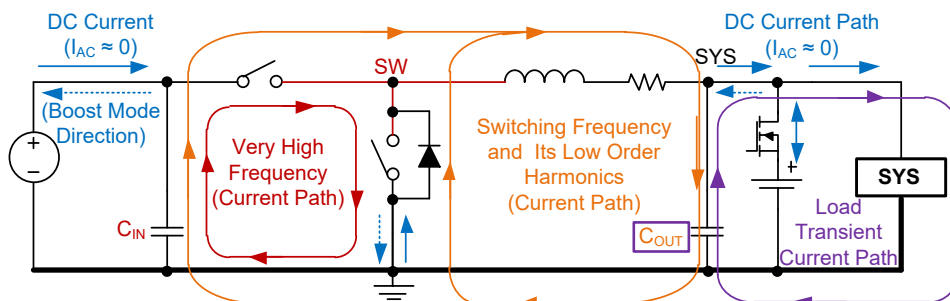

Figure 20. The Paths and Loops Carrying High Frequency, DC Currents and Very High Frequency (for Layout Design Consideration)
The switching node (SW) creates very high frequency noises, which are several times higher than f_{SW} (1.5MHz) due to sharp rise and fall of the voltage and current in the switches. To reduce the ringing issues and noise generation, it is important to design a proper layout for minimizing the current path impedance and loop area. A graphical guideline for the current loops and their frequency content is provided in Figure 20. The following considerations can help making a better layout.